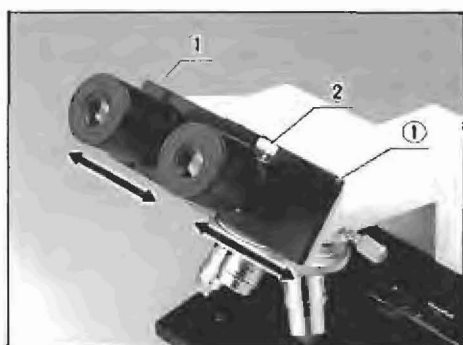

Fig. 17
- 1) Looking through the binocular tube, move the knurled dovetail slides (1) in the directions of the arrows until a perfect binocular vision is obtained. (Fig. 17)
- 2) If you memorize your interpupillary distance setting on the scale (2) provided between the dovetail slides (1), it is convenient to obtain a proper setting next time. (Fig. 17)